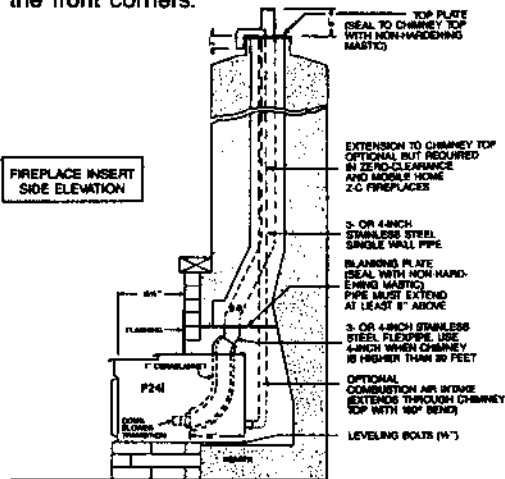

FIGURE 6
3. Top of chimney (see figure 6). All factory built fireplaces requiring outside air must use this method.
Insert installations must be vented with 3" or 4" pipe (see figure 6). Pipe may be single wall stainless steel flexible pipe. Vent may terminate within chimney beyond a blanking plate or extend to the chimney top. See section 2.2 for outside air access information. In zero-clearance fireplace installations, when the fireplace opening is above the floor or raised hearth, the stove's front can be supported by threading two 3/8" bolts into holes under the front corners.